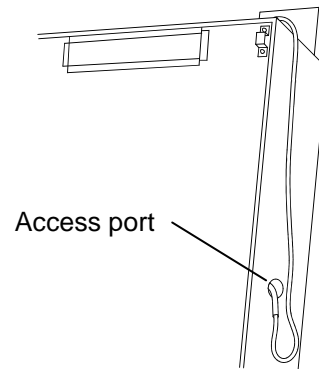

Fig. 1
4. Pass the recorder sensor into the chamber through the access port. See Fig. 1